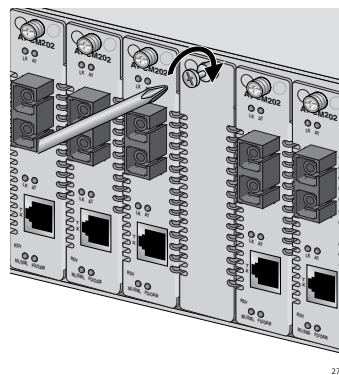

Figure 67. Tightening the Captive Screw on an AT-CV5PNL1
- Use a Phillips screwdriver to tighten the captive screw, as shown in Figure 67.